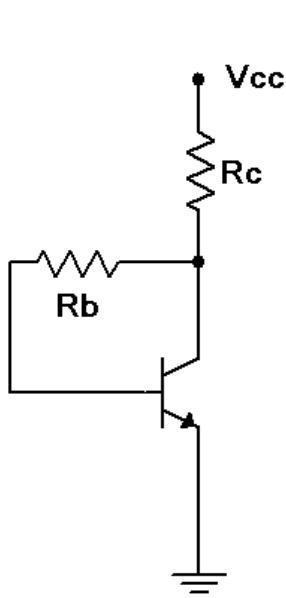

Figure 1
1. Consider the circuit of Figure 1 using $V_{cc} = 12$ volts, $R_b = 220 \text{ k}\Omega$ and $R_c = 1 \text{ k}\Omega$. Determine the ideal end points of the DC load line and the Q point, and record these in Table 1.
3. Build the circuit of Figure 1 using $V_{cc} = 12$ volts, $R_b = 220 \text{ k}\Omega$ and $R_c = 1 \text{ k}\Omega$. Measure the base, emitter and collector voltages and record them in the first row of Table 2 (Experimental).